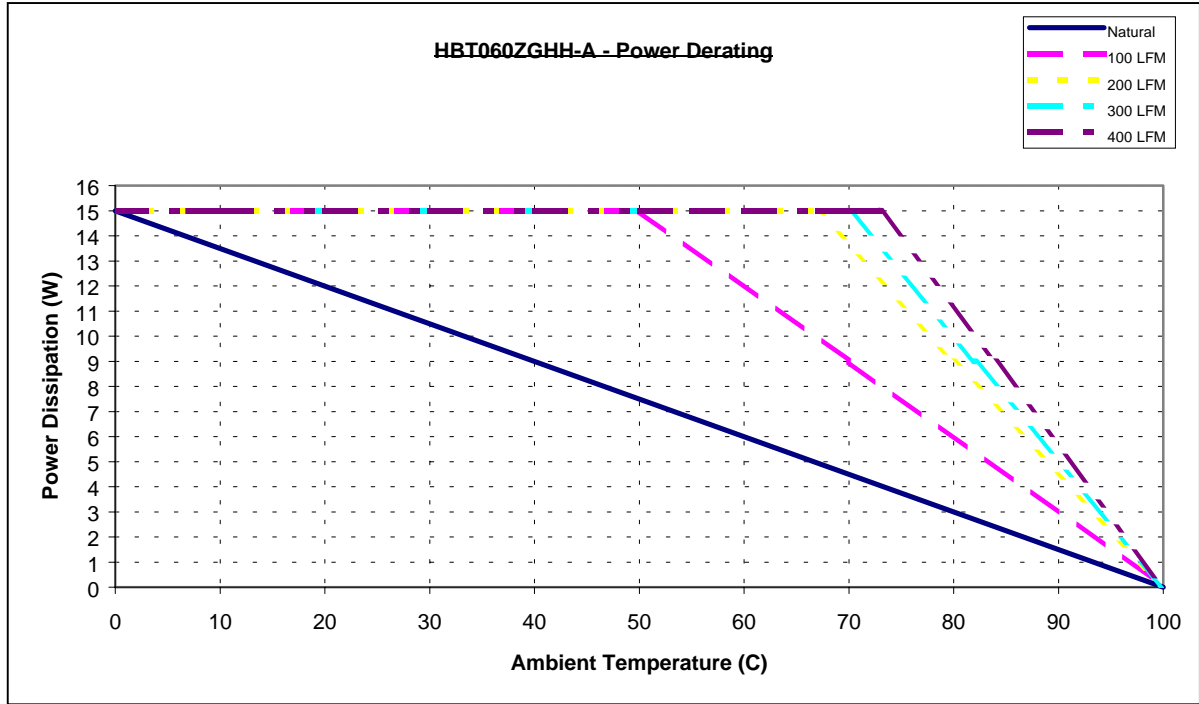

Figure 4. Maximum Allowable Power Dissipation to maintain substrate at 100 °C
Increasing airflow over the converter enhances the heat transfer via convection. Figure 4 shows the maximum power that can be dissipated by the converter without exceeding the maximum
Use of Figures 4 and 5 to properly determine proper airflow for cooling the converter at a given output power and a maximum ambient temperature is illustrated in the following example.
Step 2 (Determine airflow): From Figure 4, to maintain the substrate temperature below 100C, the airflow has to be greater than 160LFM (interpolated between curves for 100LFM and 200LFM).